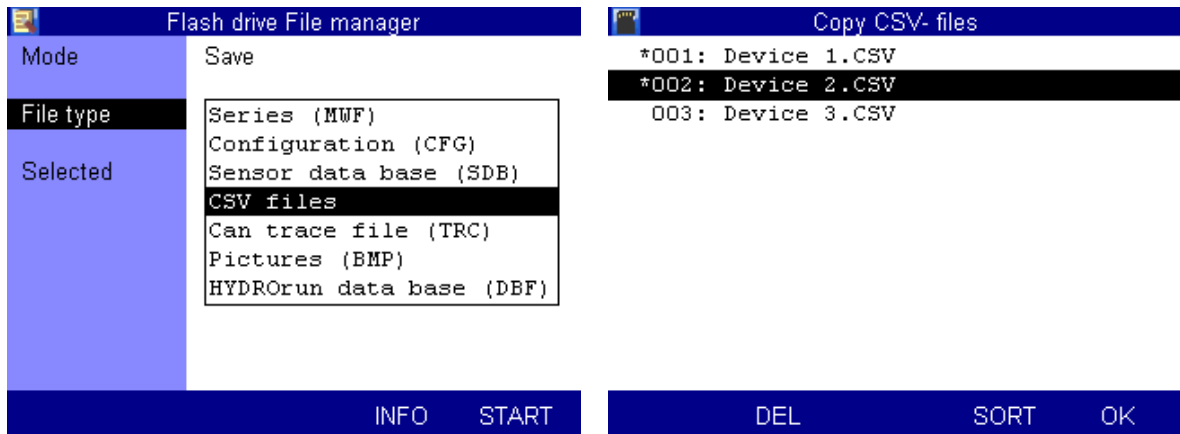

Figure 22: left: Selection of the file type: right: Selection of the measurement files
- In “Save” mode, select the “CSV files” entry on the FileType tab (see Figure 22, left).